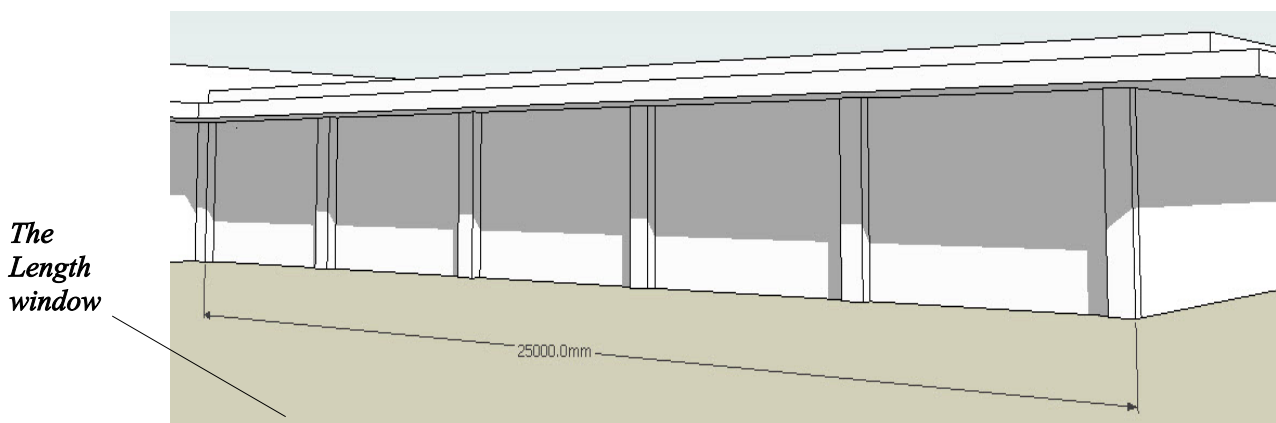

Figure 37. The pillar copied across the face of Building 1 by an Internal Array
- Enter 25000 in the Measurement window to place the pillar 25m from the origin. Immediately after placing a copy of the pillar enter 5/ in the same box which will have now changed to 'Length' as shown in Figure 37.